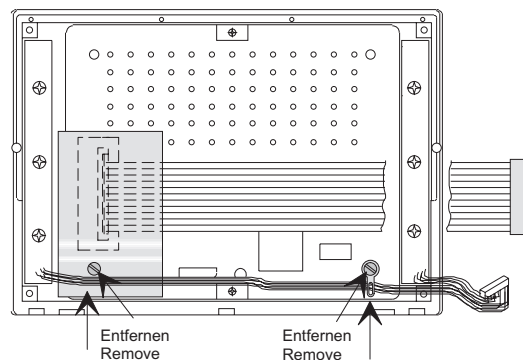

Fig 8-5: Loosen tab and shield
9. Loose the locker of the flexible flat cable at the display unit. Remove flat cable. Avoid damage of the flat cable because of canting. (fig. 8-5)